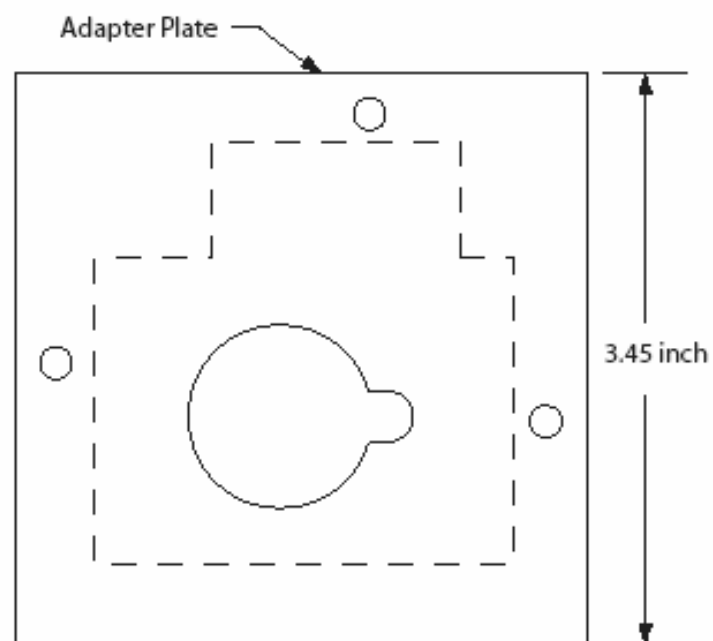

Figure 1. GC Top - no cuts required
2. Make sure the gas chromatograph (GC) is powered off and gas supplies are off.
3. On the GC, remove the cover from the detector area to expose the top of the GC, through which a detector is normally mounted. Find the appropriate mounting location based on Figure 1.